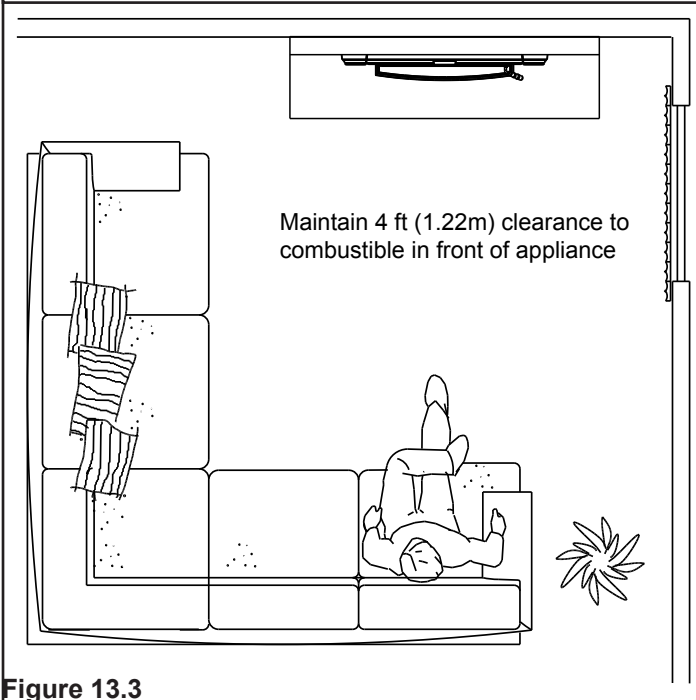

Figure 13.3
- Do NOT place combustible objects within 4 ft (1.2 m) of the front of appliance. See **Figure 13.3**.